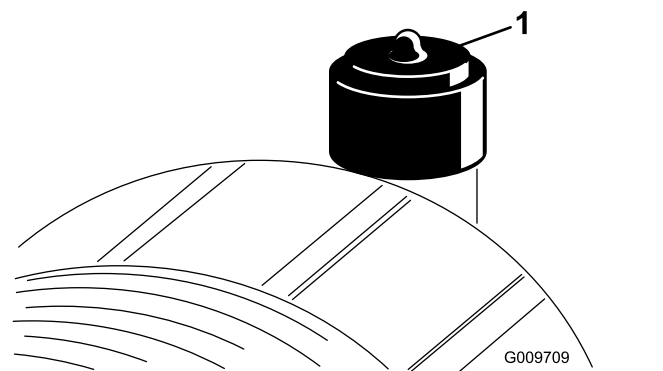

Figure 90
Service the air-cleaner filter only when the service indicator (Figure 90) requires it. Changing the air filter before it is necessary only increases the chance of dirt entering the engine when you remove the filter.
2. Reset the indicator (Figure 90) if it shows red.